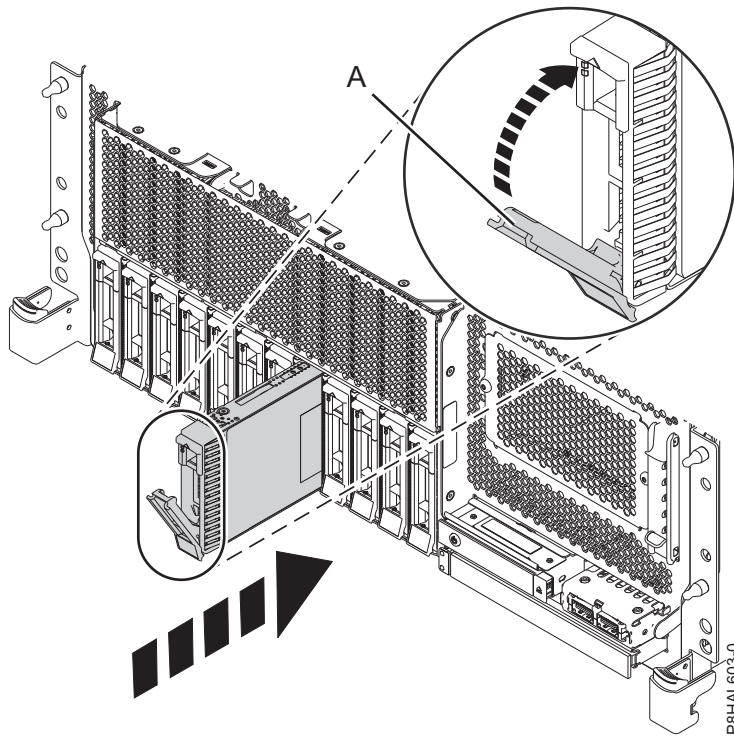

Figure 79. Replacing a disk drive in a rack-mounted base function system
3. Unlock the drive bay handle (A) by pressing it and pulling it out toward you. If the handle is not all the way out, the drive does not slide into the system. See Figure 79, Figure 80 on page 86, Figure 81 on page 87, and Figure 82 on page 88.